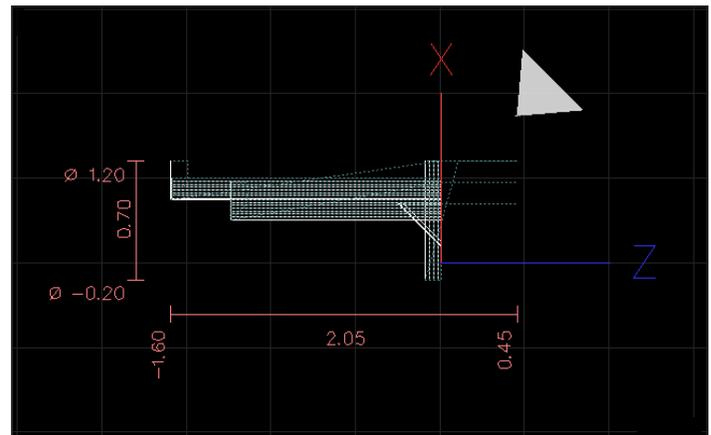

Figure 4.32
2. Click *Append to File* to add this code to part program and generate tool path shown in **Figure 4.32**.